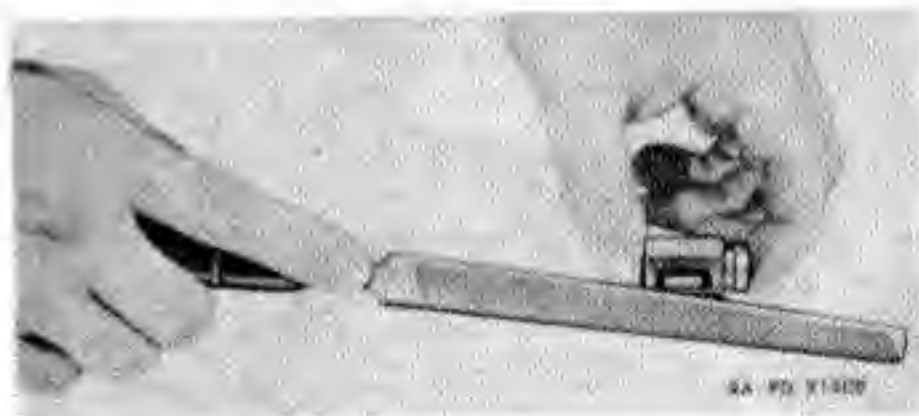

Figure 72. Filing rear sight base to fit undersize dovetail slot.
(2) If reading is above 54 inch-pounds, file the bottom of the sight base as shown in figure 72. Do not attempt to file the edges of the sight base and under no circumstances should the receiver be filed.